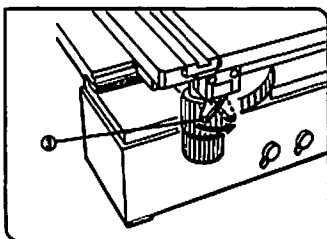

Fig. 42
- 1. When the Y-axis lock lever (3) is engaged, travel along the Y-axis is blocked while scan in the X-axis direction is free.
- 2. When releasing the lock lever, make sure to return the lever to its original position. (Fig. 42)